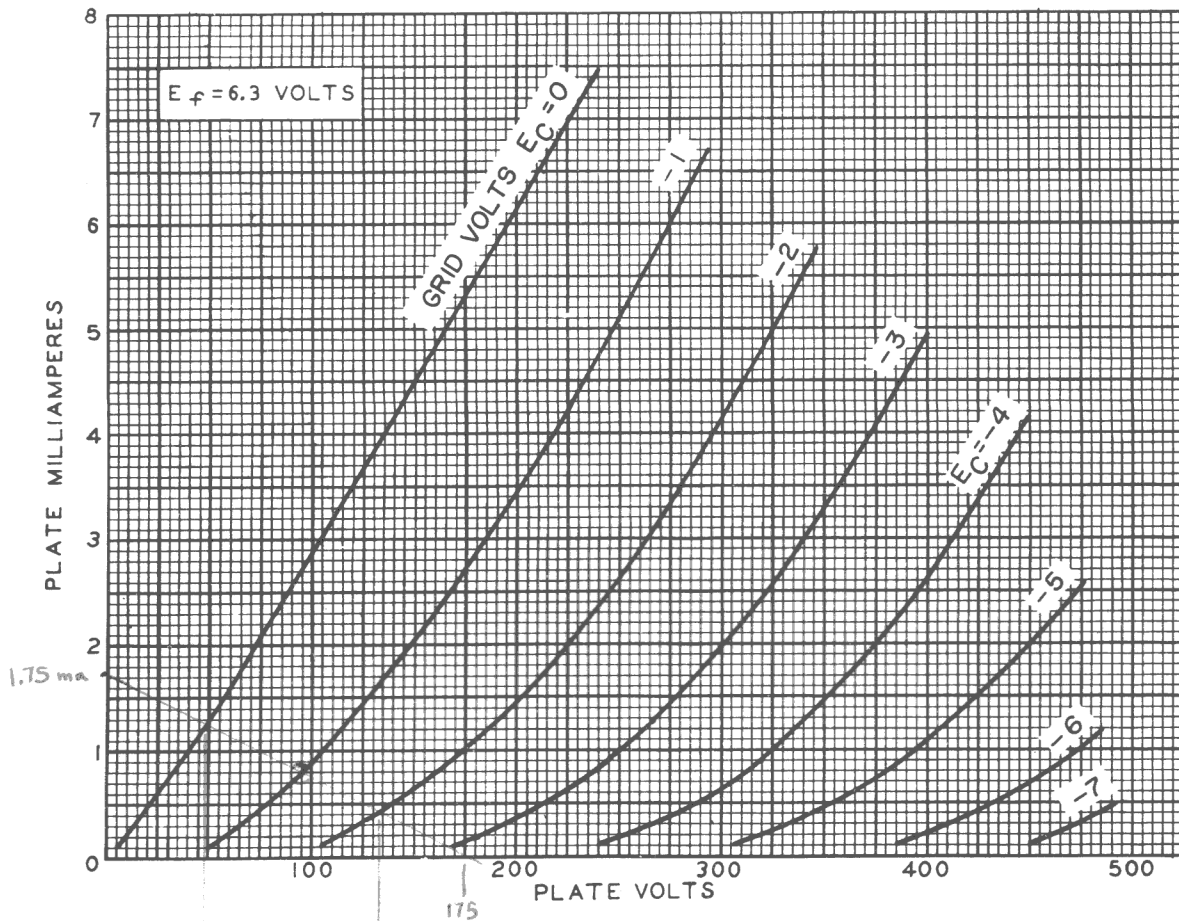

Fig. 23-13
No external bias is used in these voltage-amplifier circuits. About 1.0 volt is developed across the 10-megohm resistor due to contact bias (which you will study in a later lesson). This is sufficient bias voltage for the 6AT6 tube. Examination of the 6AT6 characteristic curves, which are shown in Fig. 23-13, will show that the curved labeled -1 begins to curve excessively below 70 volts. This explains why the gain drops off below this point. Thus, the maximum gain of an amplifier depends upon the plate-supply voltage and the grid bias voltage, as well as the plate-load resistance.
Introduction. In this experiment, you will study how the tube characteristic curves, in combination with the correct load line, show in detail the exact operation of an amplifier stage. You will draw a load line for your voltage-amplifier circuit on the 6AT6 characteristic curves given in Fig. 23-13. You will use this load line to predict what the amplifier output will be with a 1-volt peak input signal. Then you will check your predicted results by actually applying a 1-volt peak input signal to your amplifier, and measuring the output voltage.
Step 2. Compute the amount of current ($B+ \text{ supply voltage} \div 100 \text{ k-ohms}$) that would flow through the 100 k-ohm resistor if the plate were shorted to ground. Turn to the 6AT6 plate characteristics graph (Fig. 23-13) and mark this point with a sharp pencil.